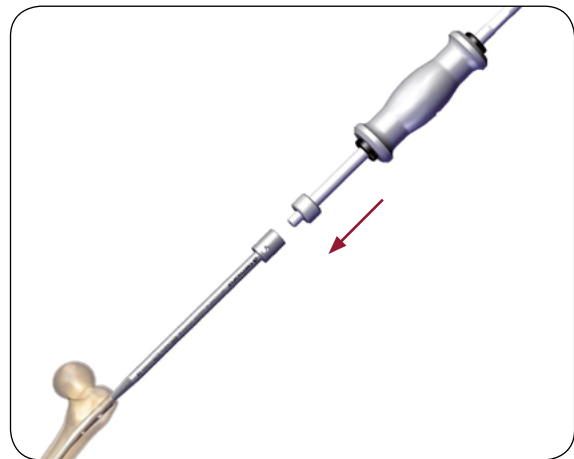
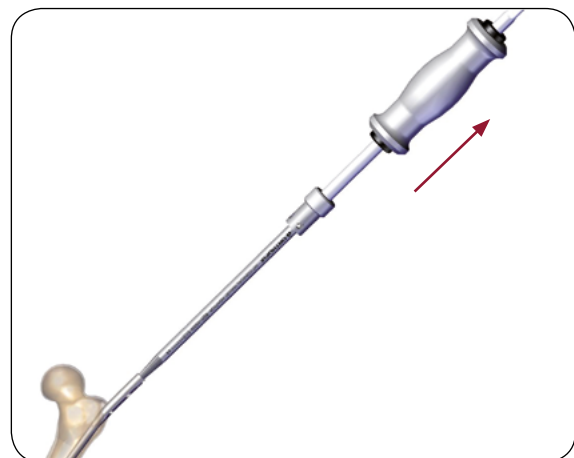

Fig. 45 Slap hammer assembly
Fig. 46 Nail extraction using slap hammer
- **Option B:** Connect the slap hammer to the pre-assembled mallet adaptor (**Fig. 45**) and extract the nail by gently hammering (**Fig. 46**).